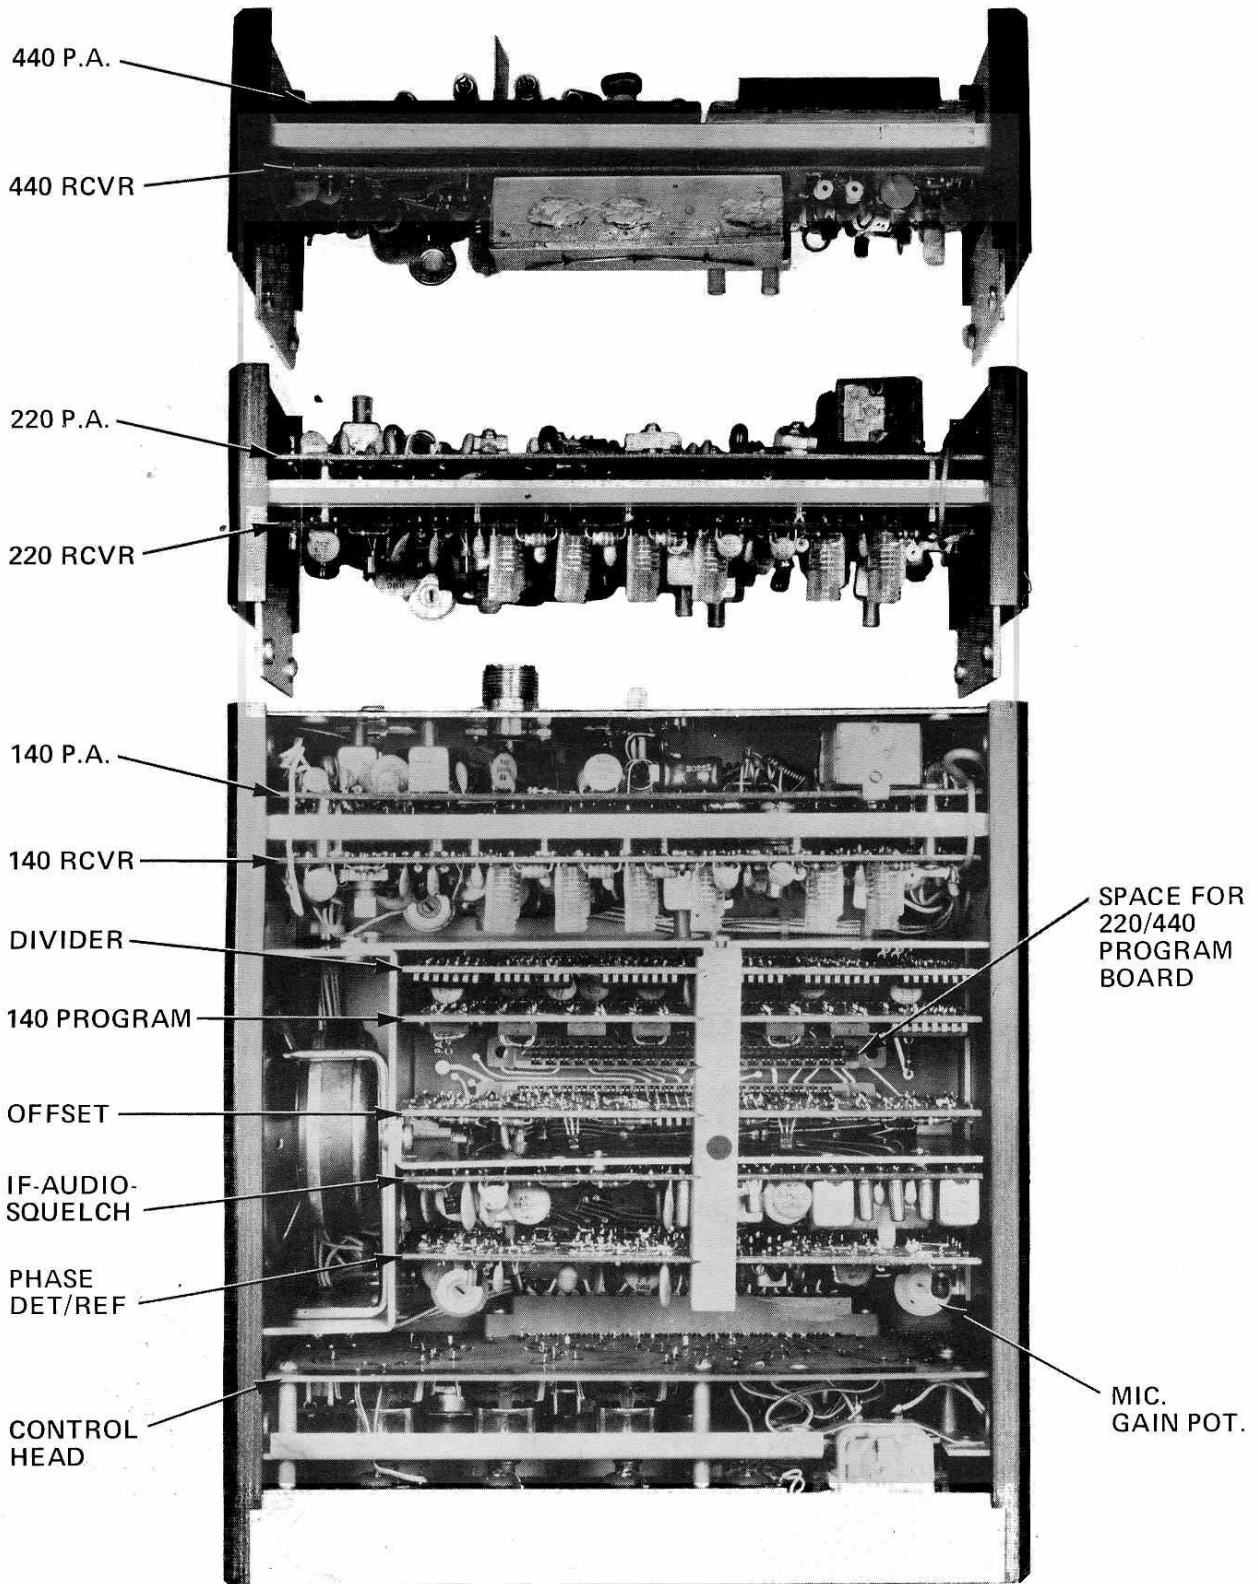
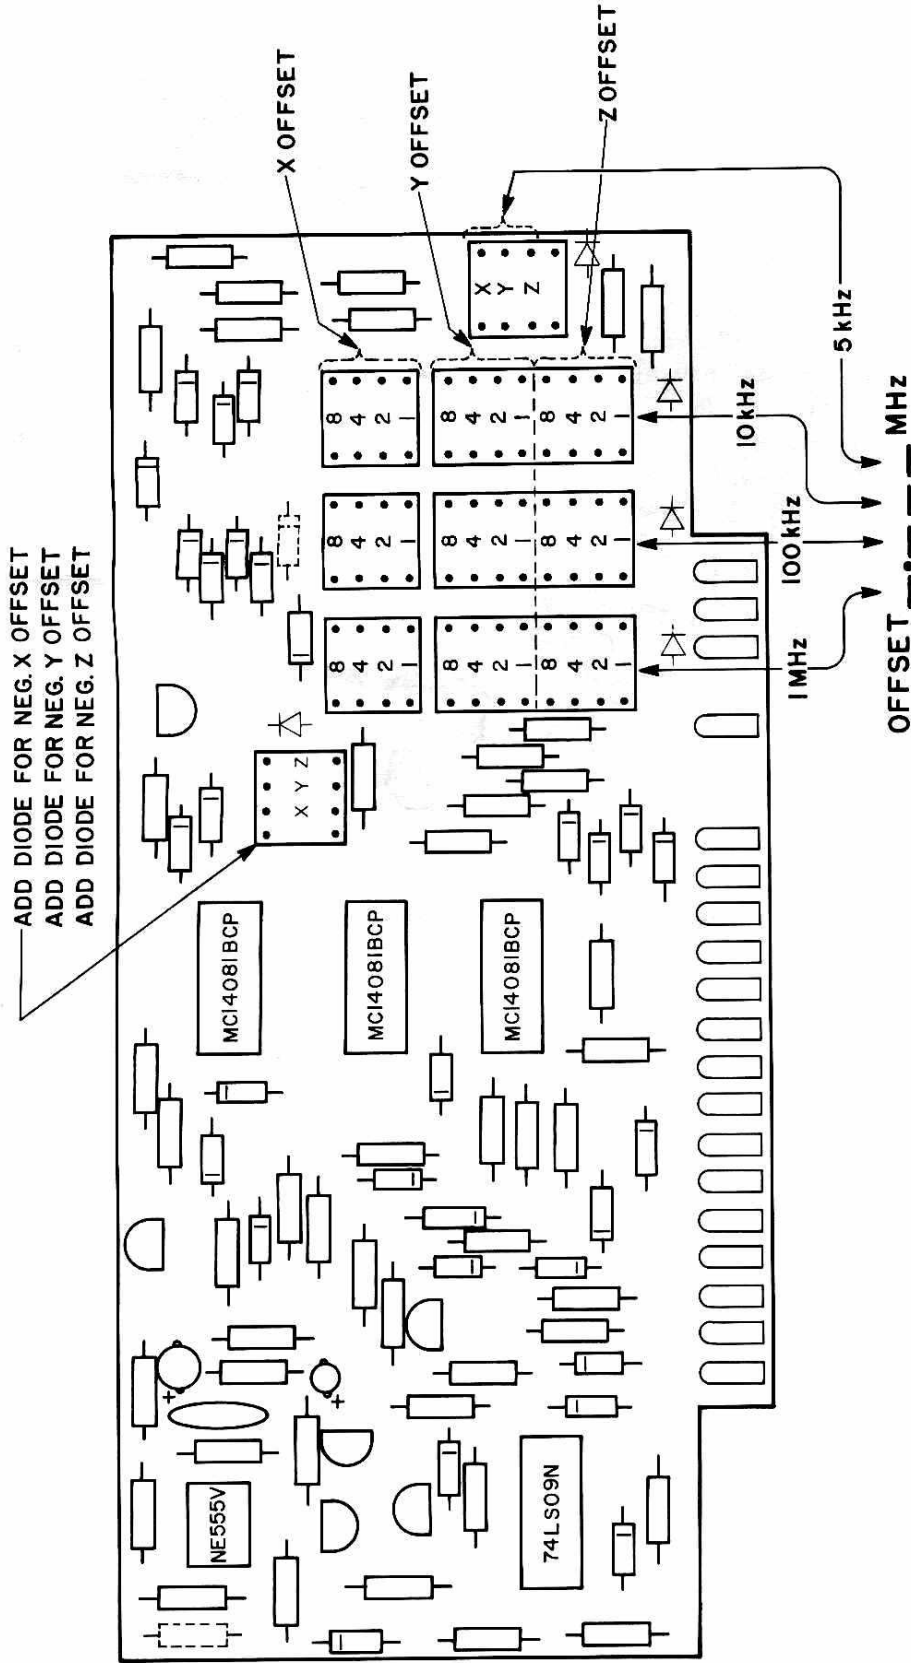

Figure 3-2. Board Locations
Figure 3-4. Offset Board
A standard 500 ohm dynamic microphone is supplied with the UV-3. The microphone is equipped with a #329-1055 connector which mates with the transceiver input receptacle located at the lower right of the front panel. Other microphones may be used with the UV-3, but it is highly recommended that a low impedance (less than 1 k Ω) dynamic microphone be used since the audio processing circuitry is designed for dynamic elements. The use of other microphones may necessitate readjustment of the "mic gain" control located on the "Phase Det/Ref" board. See figure 3-2 for placement of the "mic gain" pot. If readjustment is required, it is easily performed by having other stations give reports on microphone level. Do not adjust any controls other than the "mic gain" pot when attempting to readjust microphone level. Refer to the drawing in figure 2-1, when wiring other microphones for use with the UV-3. Make sure ground and shield connections are made exactly as shown. Note that pin 4 is supplied with a DC voltage through a 1 k Ω resistor. This arrangement provides operating voltage for a Drake 1525 EM encoder microphone, and is not used with other microphones.
The remaining three positions "X", "Y", and "Z" provide offsets which are diode programmed on the OFFSET board. See figure 3-2 for location of the OFFSET board. "X", "Y", and "Z" offsets may be positive or negative as desired and are the same value on all three bands. Complete programming instructions are provided in section 3-5, Programming the Offset Board.
Refer to Figure 3-2. Board Locations, for exact placement of the 140 PROGRAM BOARD. Remove the board using the board puller, and position with the edge connector at bottom as shown on the 140 PROGRAM BOARD. There are 6 columns of integrated circuit sockets labeled A through G. Each column is made of two (2) IC sockets; each socket will accommodate eight (8) diodes. The top four (4) rows of each column are used to program Channel 1. The BAND switch programs 140 megahertz into the synthesizer in the
The CHANNEL selector switch allows selection of four diode programmable channels each, for the 220 MHz and 440 MHz bands. Programming the 220/440 PROGRAM BOARD is similar to programming the 140 PROGRAM BOARD, that is, the *receive frequency and transmit offset frequency* are programmed. Refer to Figure 3-2. Board Locations, for exact placement of the 220/440 PROGRAM BOARD. Figure 3-6 and figure 3-7 are both concerned with programming the 220/440 PROGRAM BOARD. For purposes of clarity, only 220 MHz programming is shown in figure 3-6 and 440 MHz programming is shown in figure 3-7.
Refer to Figure 3-2. Board Locations, to determine the location of the OFFSET BOARD. Remove the OFFSET BOARD only with the board puller. Figure 3-4. Offset Board, shows the program sockets used for programming the X, Y, and Z values of offset. Diodes are plugged into integrated circuit sockets exactly as on the 140 PROGRAM BOARD. Figure 3-4 shows three sections of IC socket positions that correspond to X, Y, and Z offsets. A single four position IC socket is used to program the 5 kHz value of offset (one position is not used). Also, a single four position IC socket is used to program the direction of the transmit offset.
The scanning interval is preset to approximately 3 seconds, but may be changed if desired. Figure 3-4. Offset Board, shows an adjustment resistor for the scan interval, located in the extreme upper left corner of the board. The normal value of the resistor is 470 kilohm and it is this value that determines the 3 second interval. This resistor may be